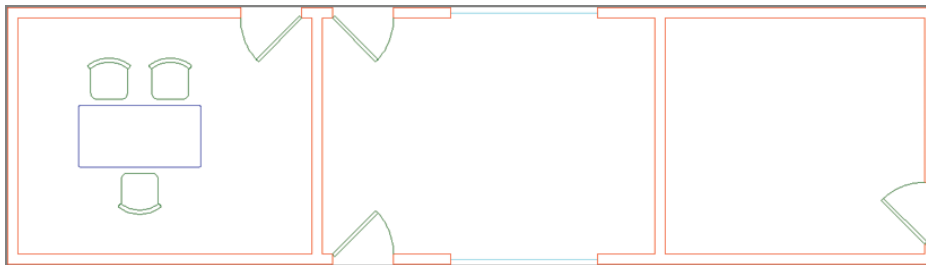

FIGURE 7.16 All doors have been updated by editing the door block in place.
6. Expand the temporary Edit Reference panel on the ribbon's Home tab, and click the Save Changes button. Click OK in the AutoCAD warning dialog box that appears, which says, "All reference edits will be saved." Figure 7.16 shows the result: All door references have been automatically updated with the new door geometry.